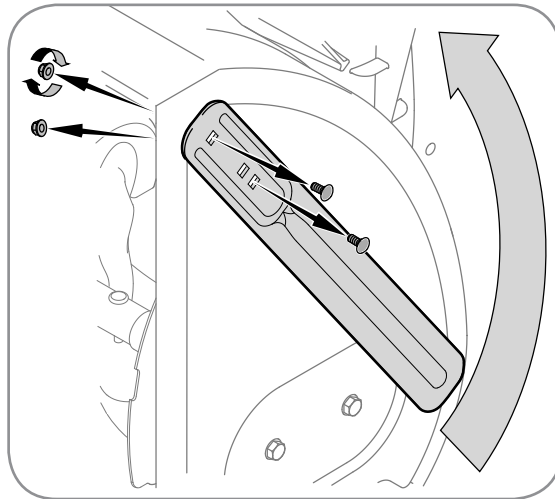

Figure 8
- Remove the carriage bolts by unthreading the hex nuts which secure them, and reinstall the drift cutters facing forward before operating the snow thrower. Refer to Figure 8.